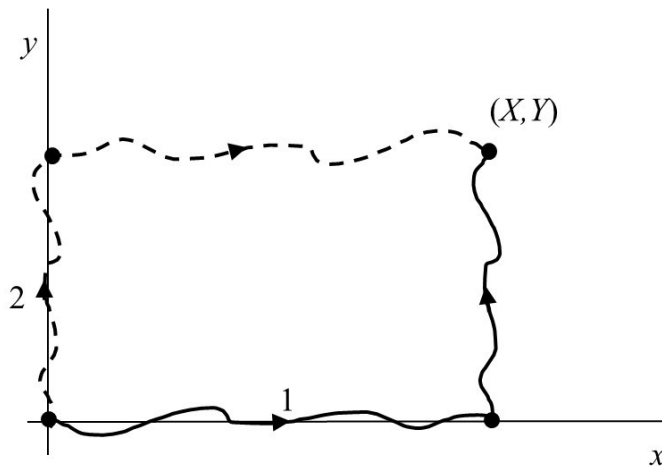

Figure 2: Integration paths considered in the problem.
**Work,  $W$ ,** is like heat and is a form of energy. It gets done when a system is displaced under the action of a force. When an external force acts on a system, doing work, this work is positive. When a system acts on the environment, doing work on it, the corresponding work is negative. Figure 2 illustrates our sign conventions. Thus: